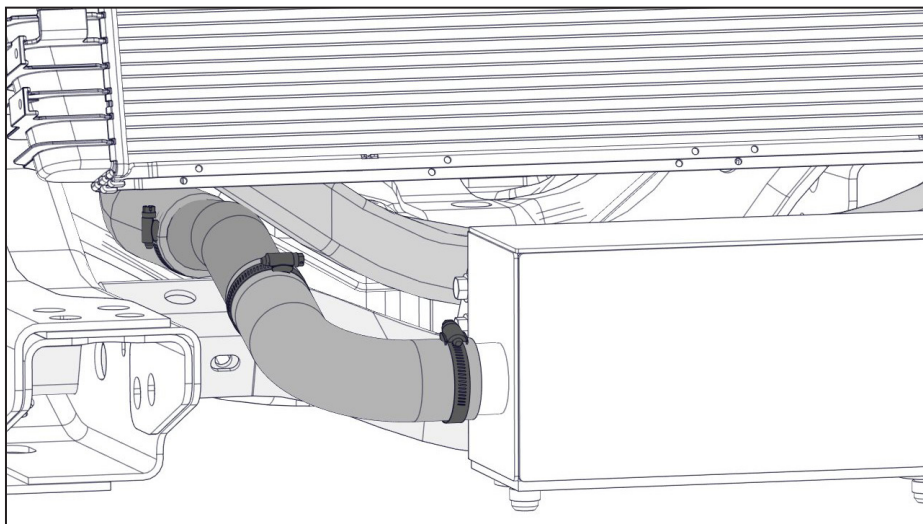

Figure 33 — Install radiator hoses and tube connectors
- ☐ Connect the supplied passenger and driver side radiator hoses and tubes to the VMAC cooler, routing the steel tube connectors between the cross member and the radiator support (Figure 33).